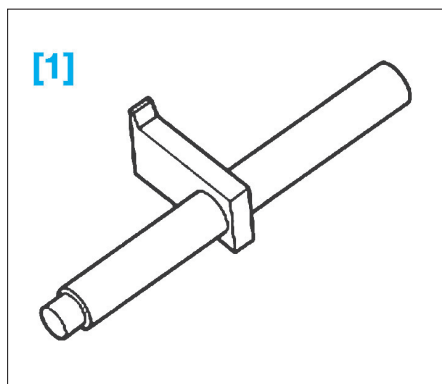

FIG. 1
- [1]. Contre-appui ref. 3067 (Fig.1).